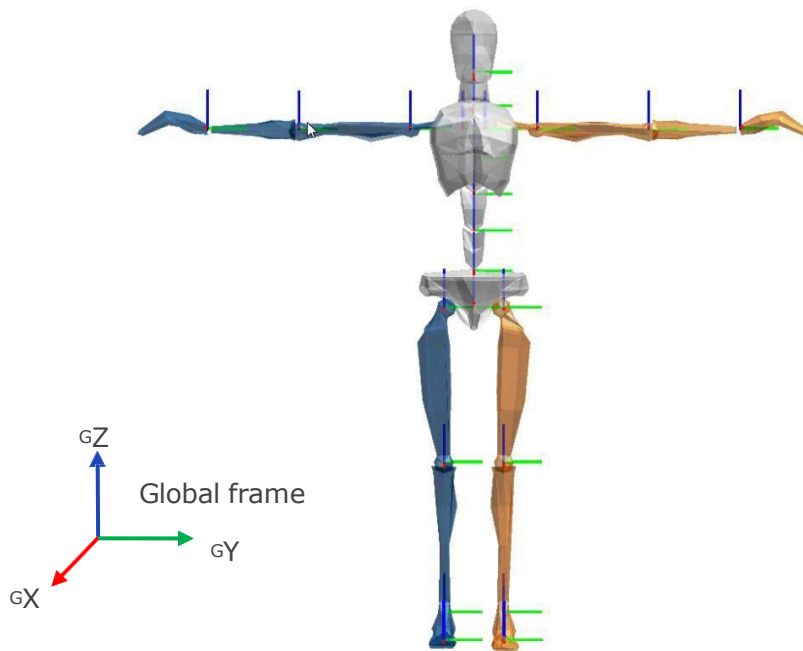

Figure 89: Segment coordinate system at each segment origin, as is used in Xsens. Legend: x: red, y: green, z: blue
The axes of each body frame (B) are aligned with this Global reference frame (G) when the subject is standing in the T-pose as shown in Figure 89.
The section <segments> defines all positions (pos_b) of connecting joints (prefixed with a "j") and anatomical landmarks (prefixed with a "p") with respect to origin of that segment (in body frame *B*). The body frame (*B*) of this list of points is defined by Figure 89.